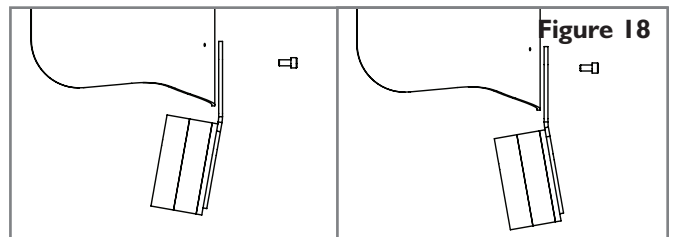

Figure 18
1. **Determine Angle of Sacral Support (Fig. 18)**